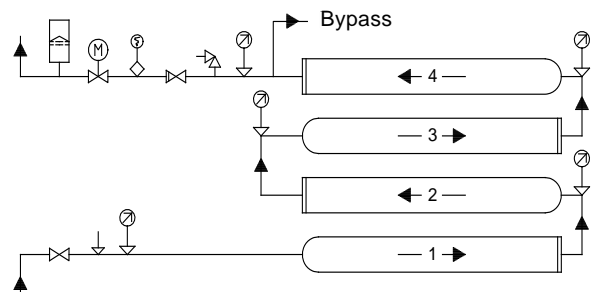

Fig. 5 Booster system with four modules connected in series, mounted above each other.
- For modules connected in series, mounted above each other, it is recommended to connect the pipes as shown in fig. 5.